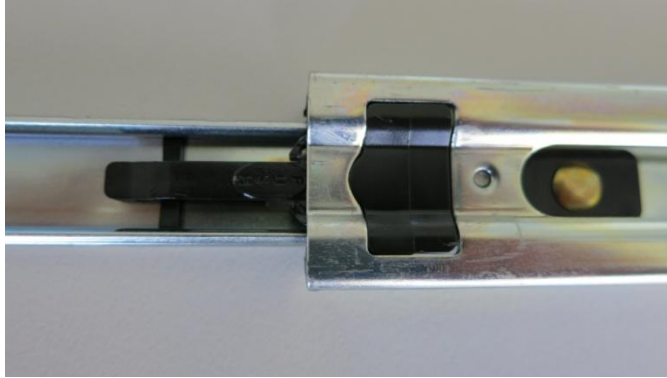

Figure 181 – Separate Rack Slides
2. Refer to Figure 181. Separate the slide rail assembly by pressing the black plastic clips in the slide rails to remove the inner section of the rail.